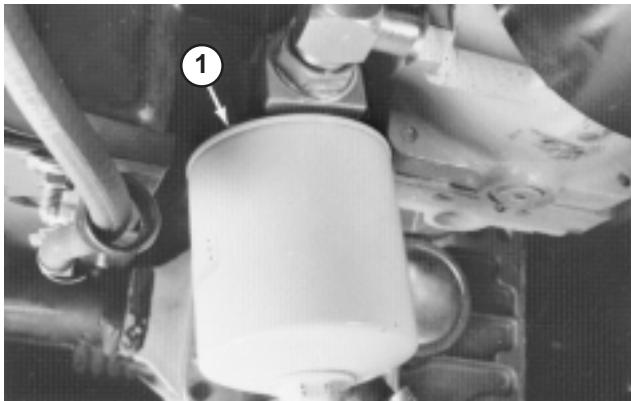

Figure 69
1. Clean area where hydraulic fluid filter mounts. Remove filter from base (Fig. 69) and clean filter mounting surface.